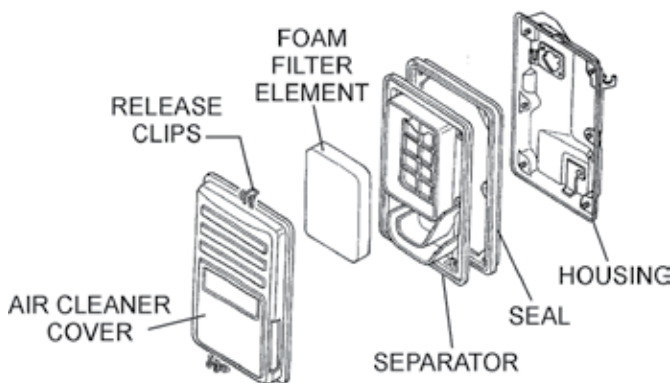

Figure 39. Engine Air Cleaner
1. Remove the air cleaner cover and foam filter element as shown in Figure 39.